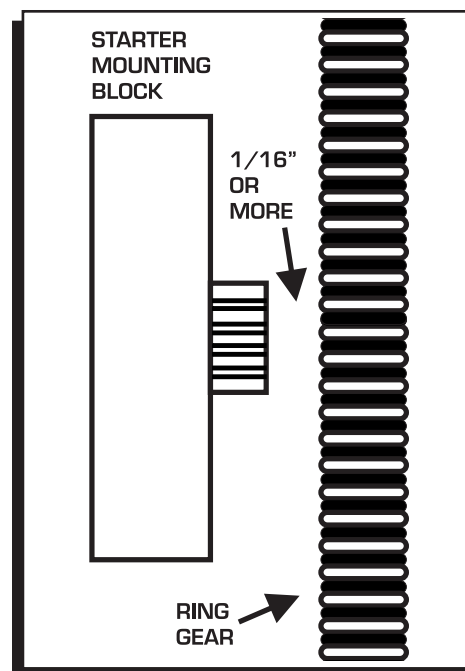

Figure 2 Checking Pinion Clearance.
4. With the starter installed, check the clearance between the ring gear and the edge of the pinion gear (Figure 2). There should be at least 1/16". It is recommended to check this clearance in at least three places around the ring gear.